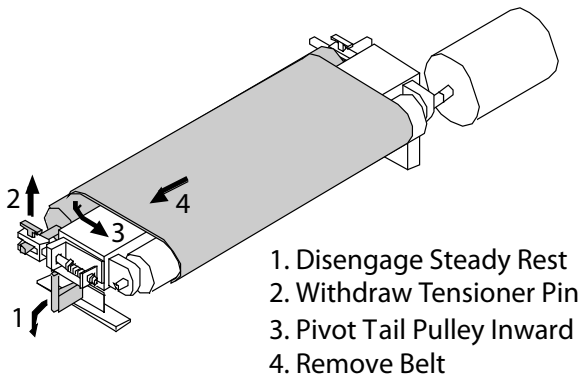

FIGURE 6
2. Referring to Figure 6, pull the steady rest down and out of the way. Note that a strong initial pull, directly outward, is necessary to disengage the steady rest.